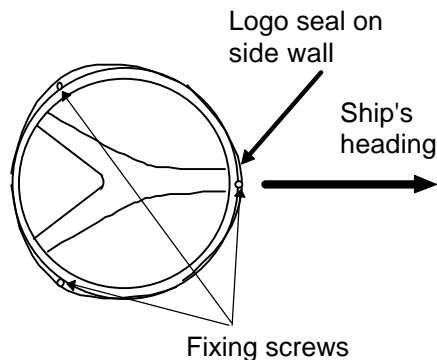
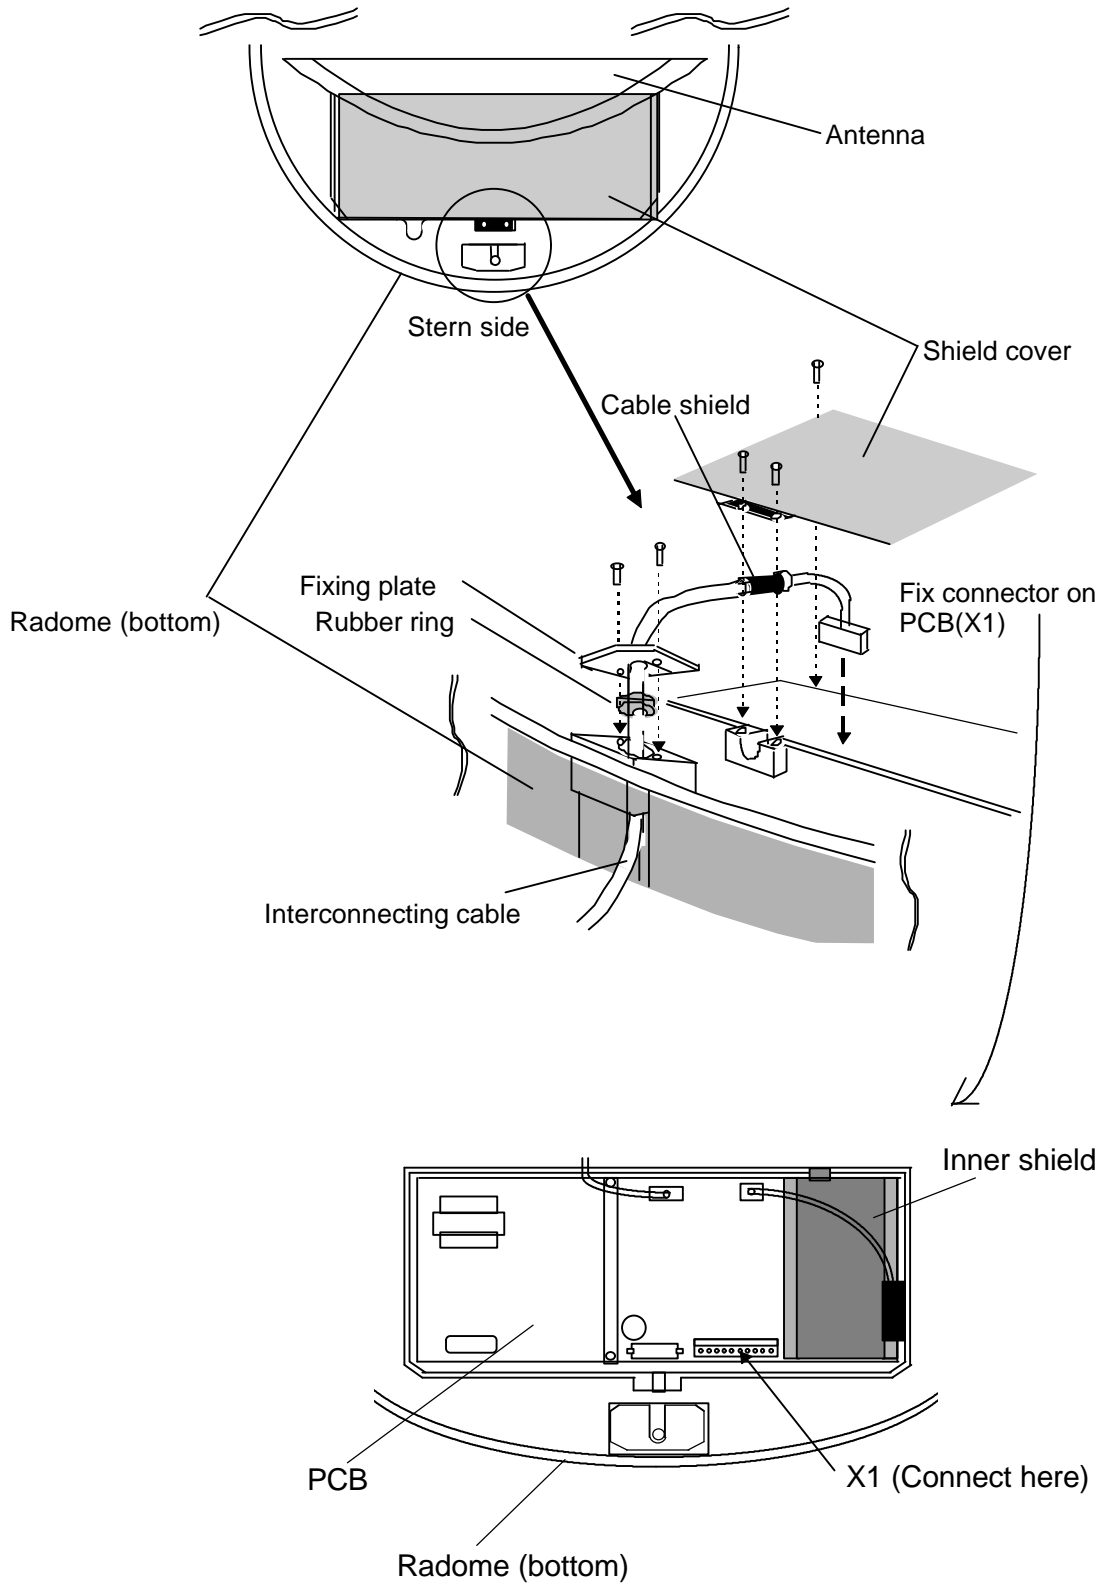

Fig.3-7 Fitting cover
Fig.3-8 Fitting interconnecting cable
3.6.1 Interconnecting cable (See Fig.3-8)
- ① Ensure that the radar is off. Connect the cable to the receptacle labeled "SCANNER" on the rear panel of the display unit.
- ② Next, remove the upper part of the radome from the scanner unit. Avoid bumping it against the antenna by lifting vertically. (There are three fixing screws.)
- ③ Remove the tape fixing the antenna.
- ④ Remove the shield cover located on the astern side. (There are three fixing screws.)
- ⑤ Remove the cable clamping plate and rubber ring, pass cable through the introduction opening, put the rubber ring from both ends of it, and clamp the cable to the scanner unit with screws via the fixing plate. Plug the connector fitted to the cable into the X1 connector on the PCB.
- ⑥ Replace the aluminum cover. At this time, attach a cable shield onto a ditch with the aluminum cover. However, be careful that the cable will not be caught up between the main unit and cover.
- ⑦ Replace the upper part of the radome. Be careful not to bump it against the antenna in the same way as when removing it. Make sure that the cover is fitted in the correct direction as shown in Fig.3-7. The upper and lower parts of the radome each have three markings indicating screw positions. Align the upper and lower positions as you mount the radome.